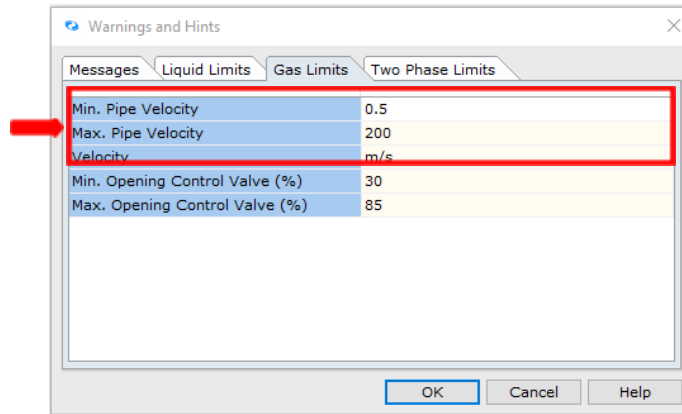

Figure 34: Warning and Hints: Gas Limits.
Since we are modeling a gas system, we are only interested in the Gas Limits (Figure 34).
34. As we can see in Figure 33, the actual flowing velocities of the fluid are **48.17 m/s (inlet)** and **50.48 m/s (outlet)** which is within the **0.5 – 200 m/s** range for the minimum and maximum pipe velocity (Figure 34). The high-velocity warning is enunciated once the actual flowing velocity is higher than the maximum velocity level set in our warnings (**200 m/s** – See Figure 34).